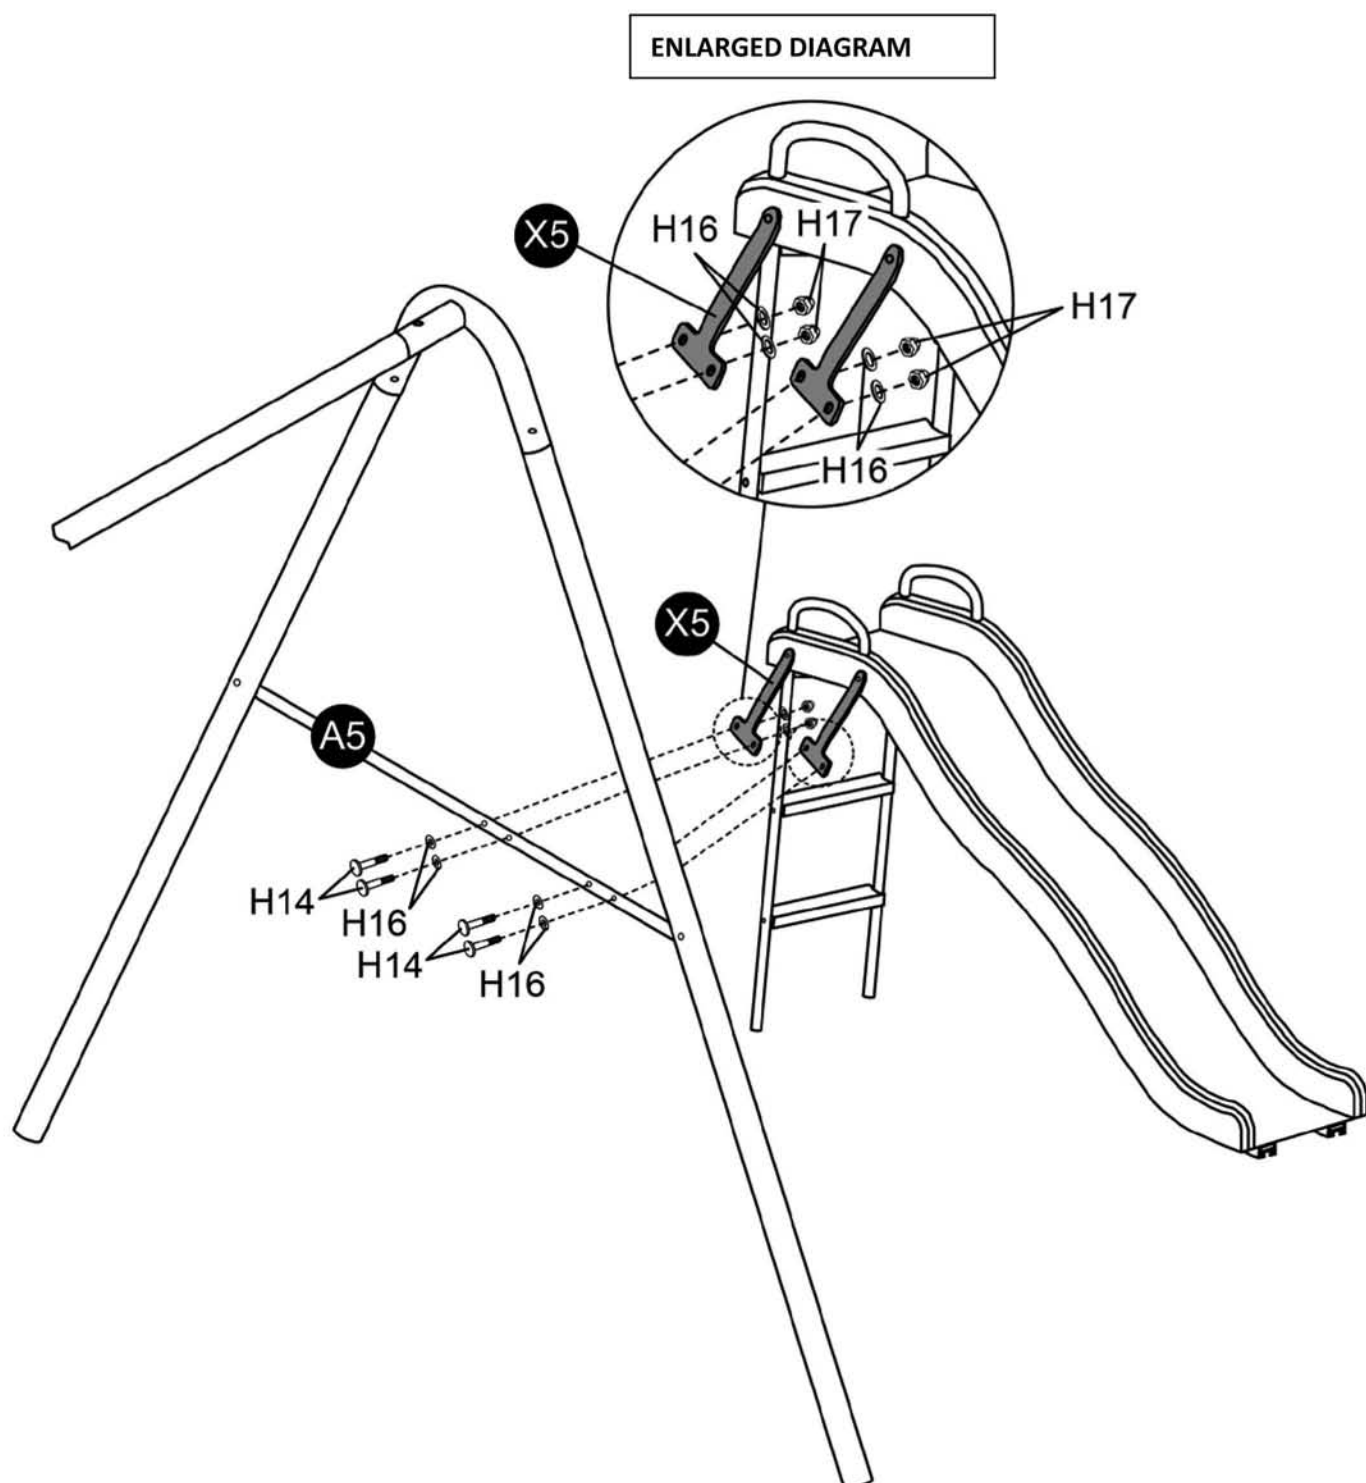

FIGURE 22
- Attach the assembled slide unit (X5) to A5. Secure with H14, H16 and H17 as shown in FIGURE 22.